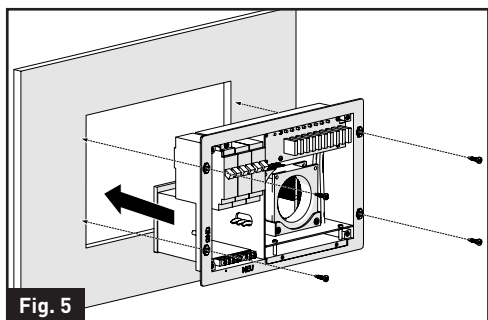
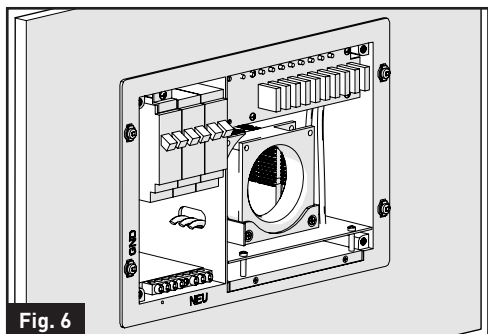

Fig. 5
Fig. 6
7. Slide the power center into the opening area and affix with 4 self-tapping screws (#8-18 thread) (not supplied). (Fig.5 and Fig. 6)